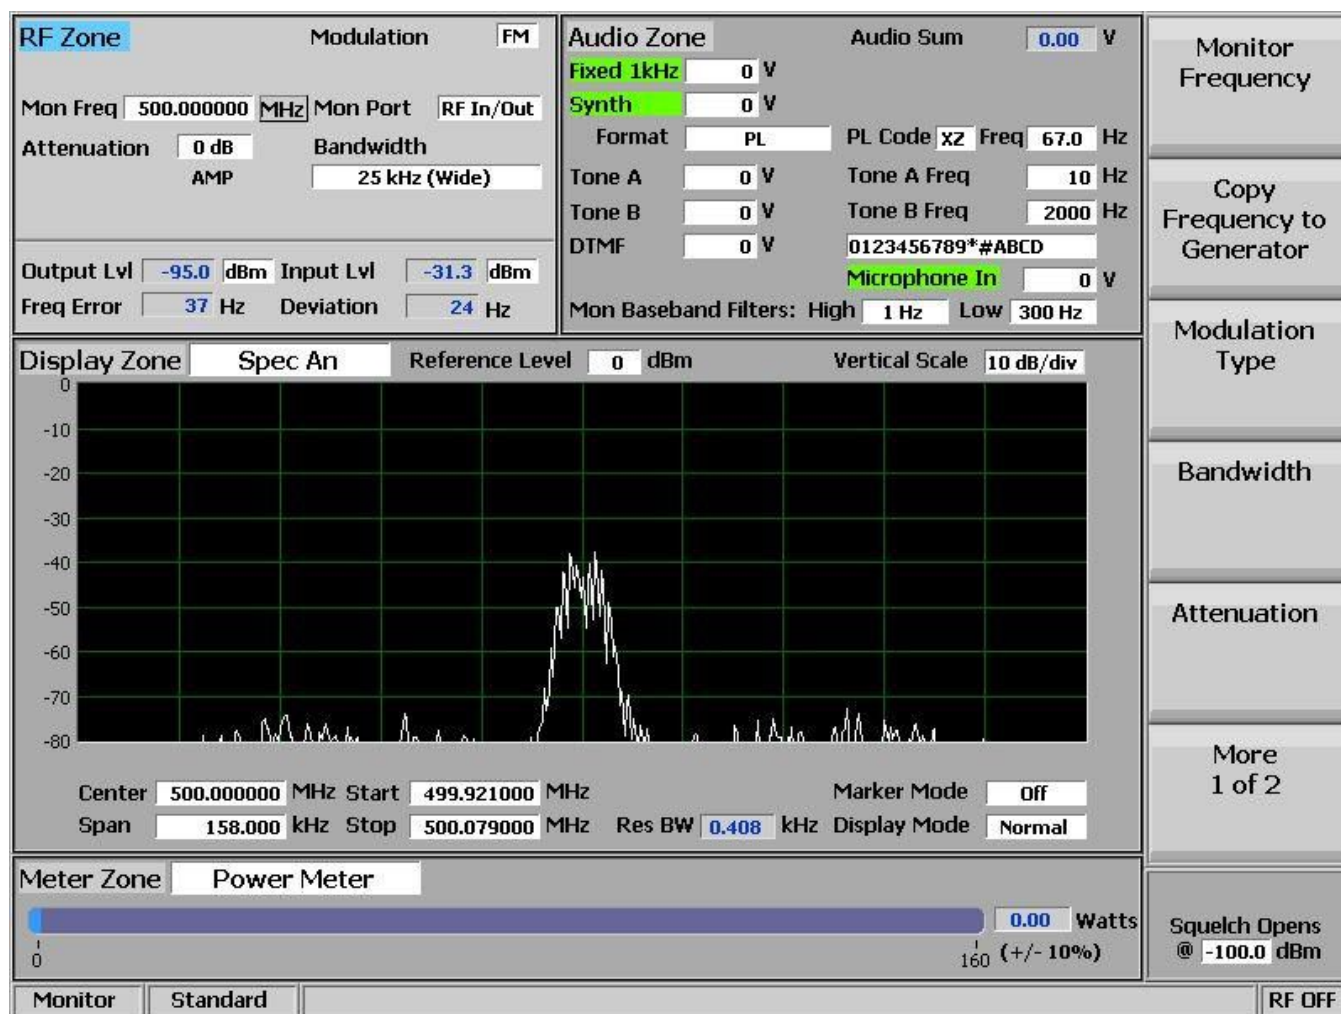

Figure 3.2.1-2 Monitor Mode submenu after RF Zone soft key press
To adjust the RF settings press the RF Zone soft key or hot key 1. The RF Zone area of the display highlights and the soft key submenu shown in Figure 3.2.1-2 appears with the following selections: